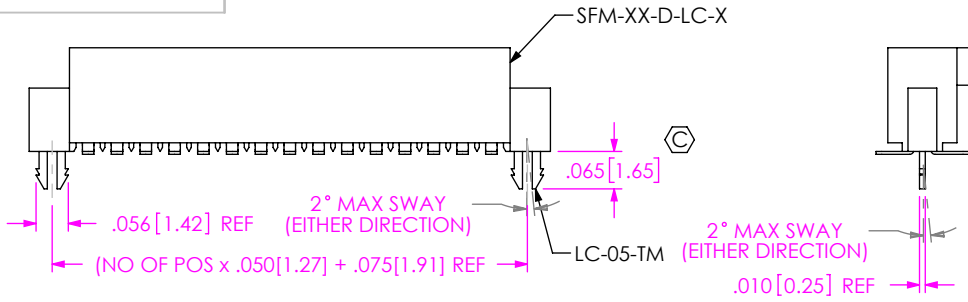

FIG 6
- LC: LOCKING CLIP (SEE FIG 6, SHT 3 & NOTE 8)